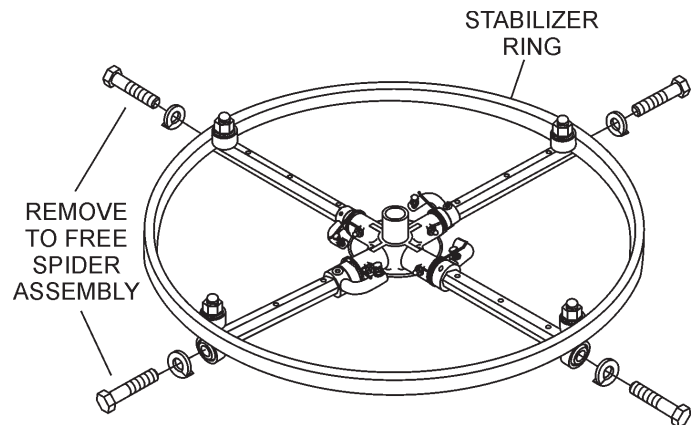

Figure 40. Stabilizer Ring
3. If the trowel is equipped with an outer stabilizer ring (Figure 40), remove the four bolts at the end of each spider arm.